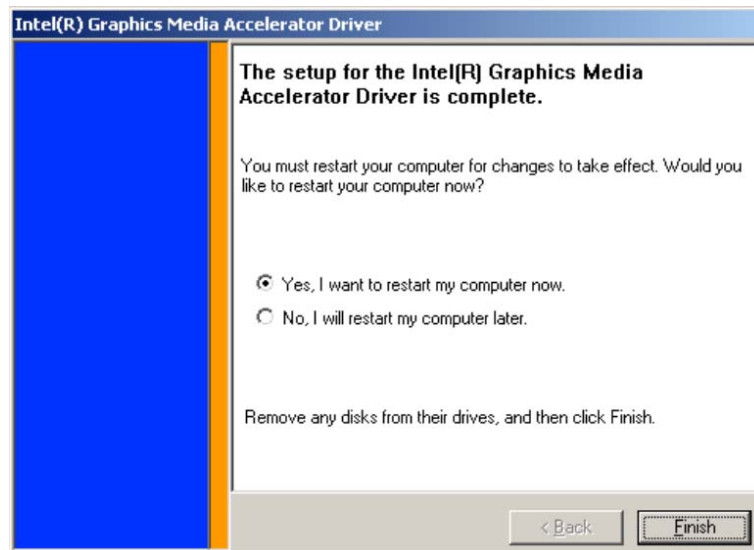

Figure 7-15: Intel® Graphics Media Accelerator Installation Complete
Step 12: After the driver installation process is complete, a confirmation screen appears (Figure 7-15).